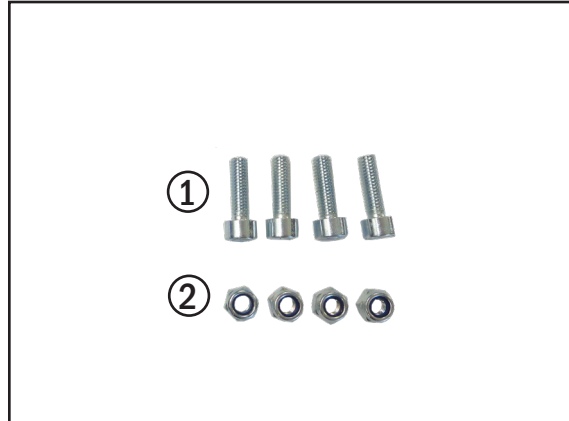

Fig. 11: Screws/nuts for ISOBUS socket bracket
- 4 x *Socket head screw M6x20 with cylinder head DIN 912* (300095) (see Fig. 11 – 1)
- 4 x *Self-locking nut M6 DIN 985-8 VZ* (300142) (see Fig. 11 – 2)